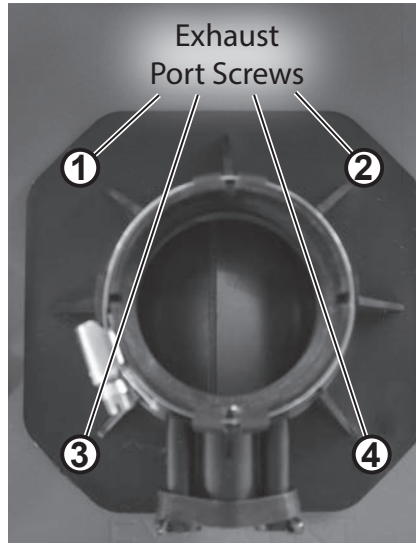

Figure 146 - Remove exhaust port screws
and remove the four (4) screws securing exhaust port to water heater cabinet as shown in Figure 146. Place screws aside in a safe place for reinstallation.